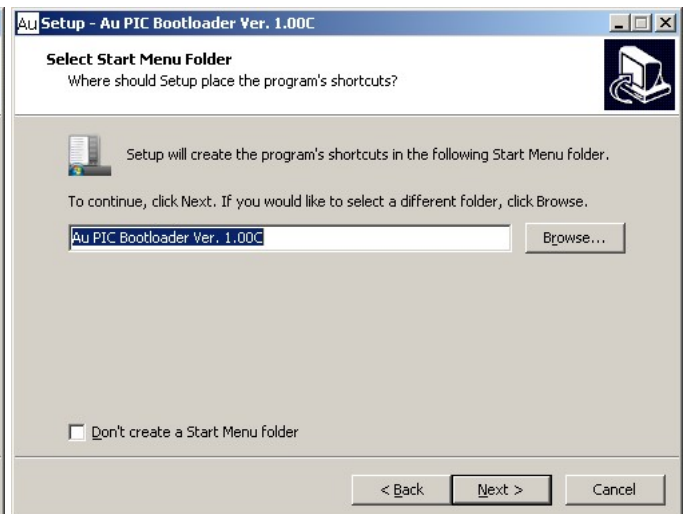

Figure C-5
5. “Select Start Menu Folder” window will show up. Use default setting “AU PIC Bootloader”, then click “next” (Figure C-5).